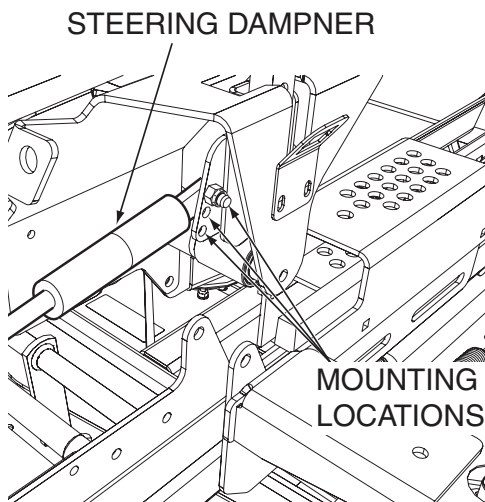

Figure 6-9. Steering Dampner Adjustment
1. **Top Mounting Location (Figure 6-9).** Used for the highest dampening affect on the steering controls.
2. **Middle Mounting Location (Figure 6-9).** Used for average dampening affect on the steering controls.
3. **Bottom Mounting Location (Figure 6-9).** Used for the lowest dampening affect on the steering controls.